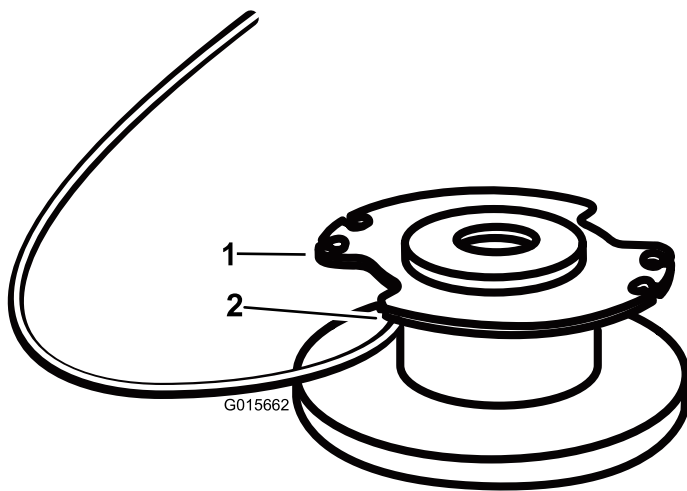

Figure 19
4. Insert the string into the anchor hole in the upper part of the spool (Figure 19). Wind the string onto the spool in the direction shown by the arrows on the spool.